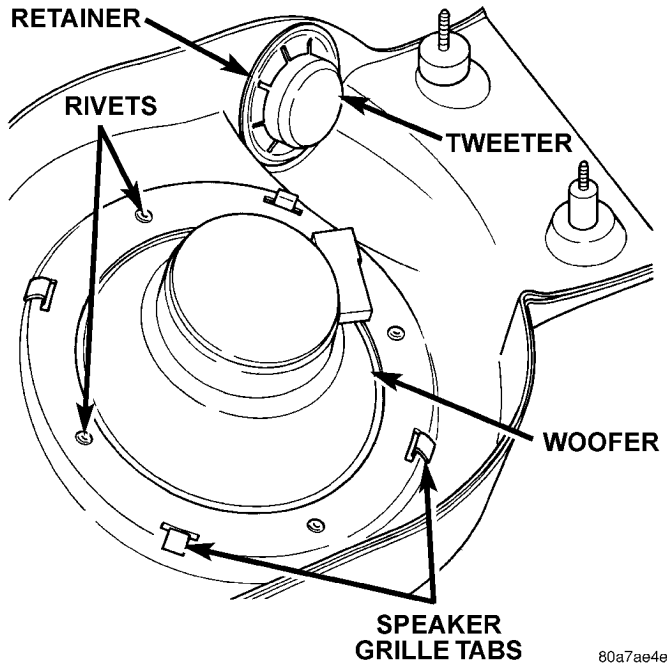

Fig. 15 Sound Bar Speakers Remove/Install
(1) Remove the sound bar from the vehicle. See Sound Bar in this group for the procedures.
(2) Unplug the sound bar wire harness connector from the tweeter.
(3) From the inside of the sound bar, use a pair of side cutters to cut and remove the push-nut type retainer that secures the tweeter to the sound bar (Fig. 15).
(4) From the inside of the sound bar, push the tweeter out of the mounting hole.
(5) Reverse the removal procedures to install. Always use a new push-nut retainer to secure the tweeter in the sound bar.
(2) Unplug the sound bar wire harness connector from the woofer.
(3) From the inside of the sound bar, straighten the four tabs that secure the speaker grille to the sound bar (Fig. 15).
(4) From the outside of the sound bar, gently remove the speaker grille.
(5) Carefully drill out the four rivets that secure the woofer to the sound bar.
(6) Remove the woofer from the sound bar.
(7) Reverse the removal procedures to install. Always use new rivets installed from the inside of the sound bar to secure the woofer.